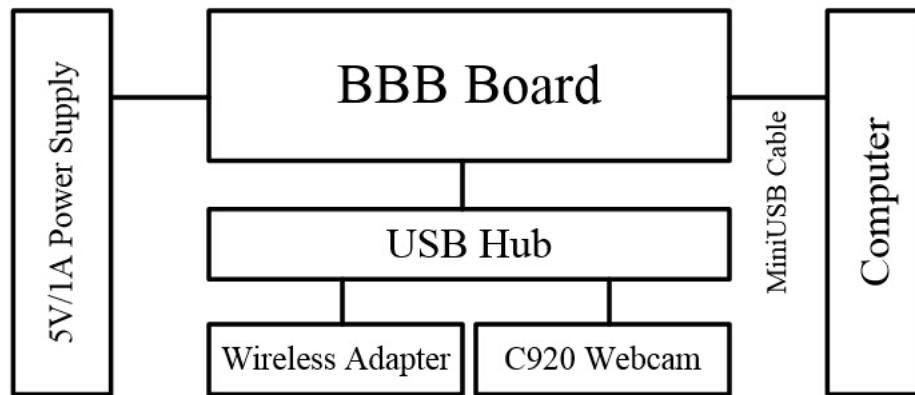
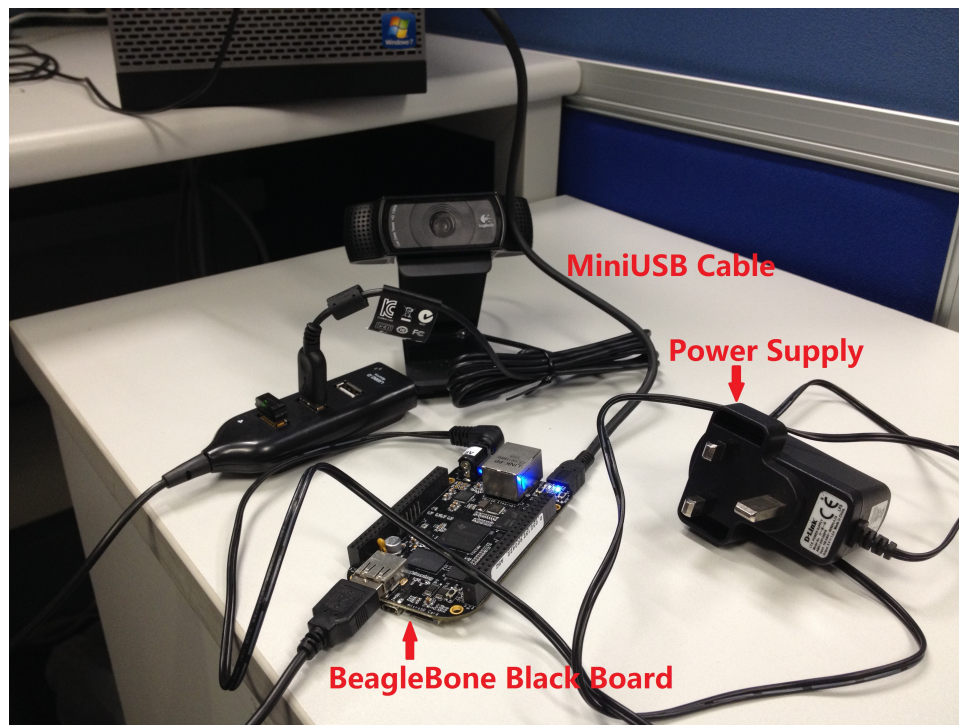

Fig. 1. Block diagram of hardware description.
Fig. 2. Physical View of BBB Platform.
- A mini SD card and its corresponding USB portable card reader. The detailed connection information of all hardware cables and devices is provided in both Fig. 1, for block diagram view, and Fig. 2 for real view.